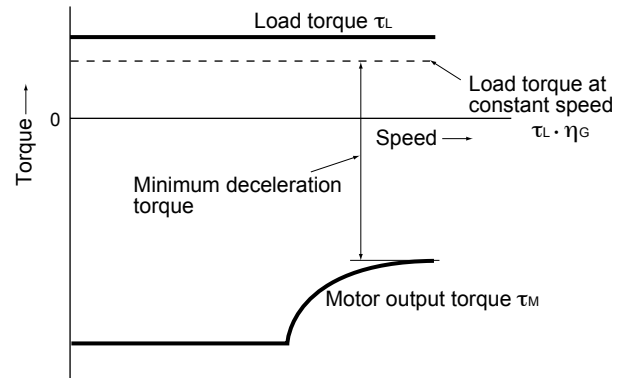

Fig. 4.5 Example study of minimum deceleration torque (1)
**② Calculate minimum deceleration torque. (See Fig. 4.5)**